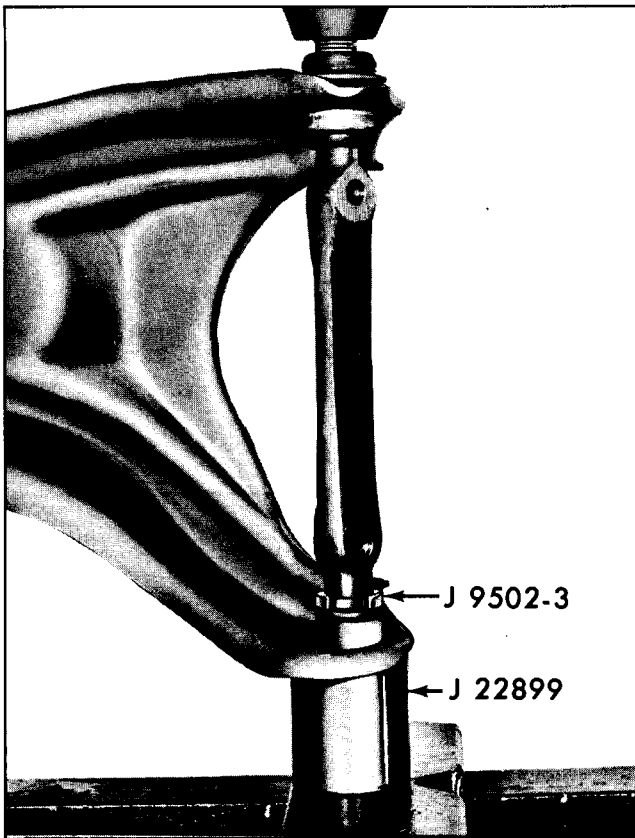

Fig. 3-24 Removing Upper Control Arm Bushing
2. Place control arm in an arbor press and position tools J 9502-3 and J 22899 as shown in Fig. 3-24.